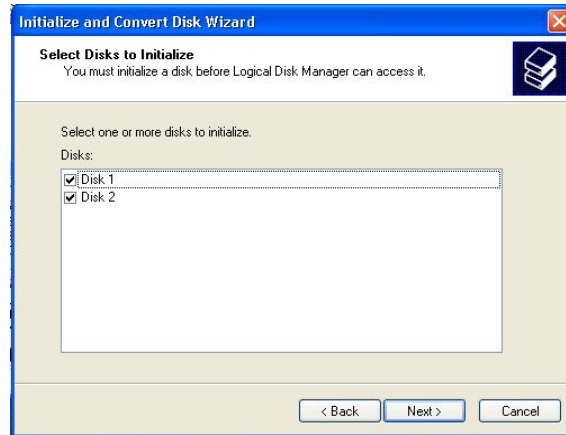

FIGURE 6-16. Initialize and Convert Disk Wizard - Select Disks to Initialize Screen.
4. At the *Initialize and Convert Disk Wizard - Select Disks to Initialize* screen, make sure the Disk 1 and Disk 2 checkboxes are checked. Click **NEXT >**. See Figure 6-16.